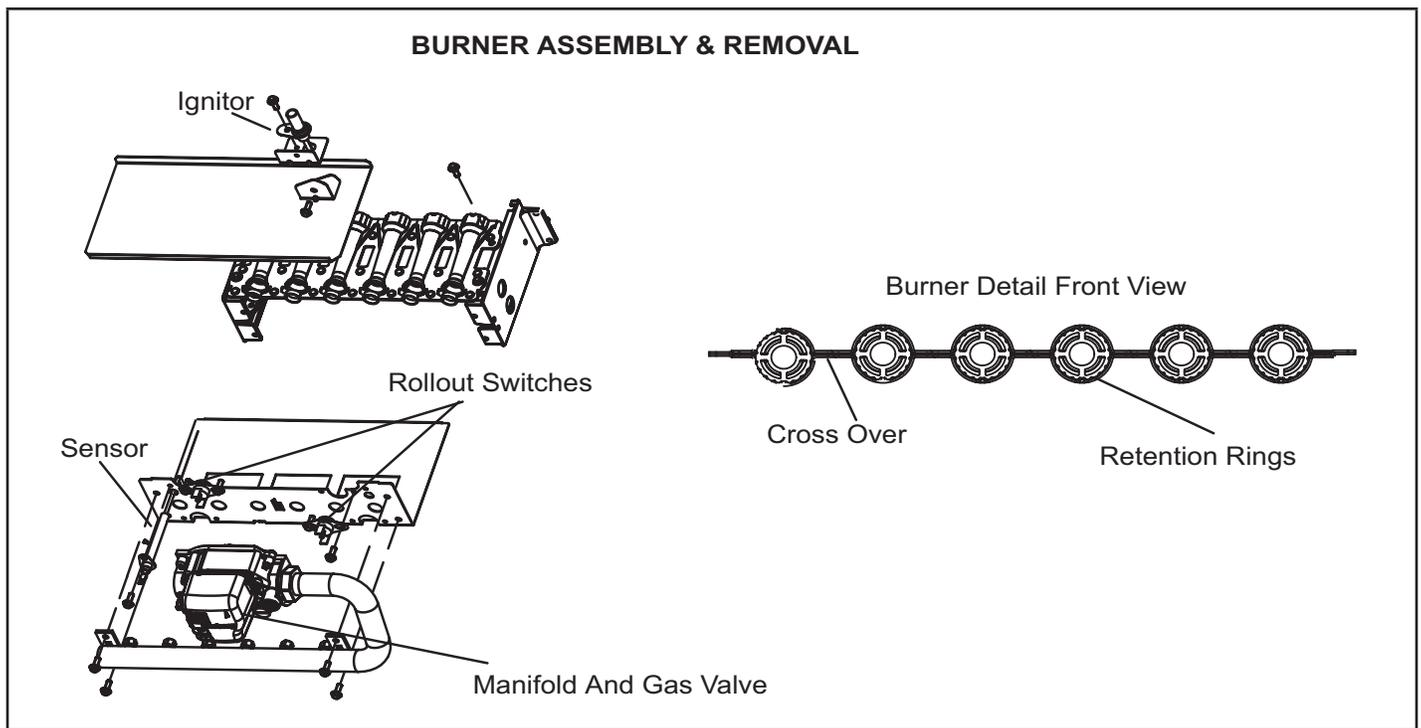

FIGURE 34
- 4 - To clean burners, run a vacuum cleaner with a soft brush attachment over the face of burners. Visually inspect inside the burners and crossovers for any blockage caused by foreign matter. Remove any blockage. Figure 34 shows burner detail.